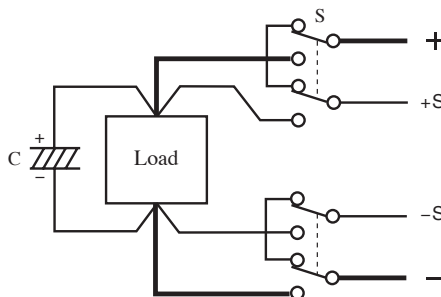

Fig.4-5 Power ON/OFF using mechanical switches
• To turn on/off the power supplied to a load using a mechanical switch, provide additional switches between the sensing wires as shown in Fig.4-5; turn on/off the power and remote sensing function simultaneously. In addition, make sure the OUTPUT switch or POWER switch turned off when turning on/off the mechanical switch.